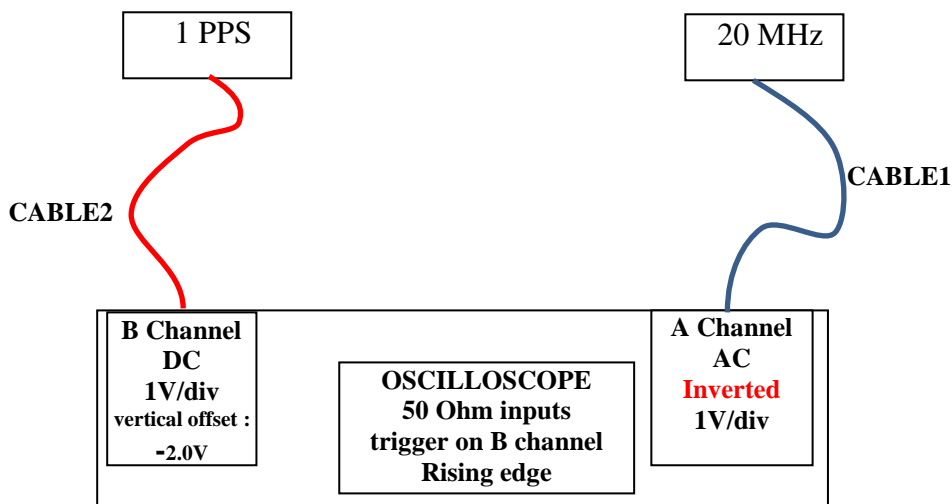

Figure 6: Measurement 1c: exchanged channel set-up
- c. There is still another way to validate the oscilloscope measurements. Interchange the channels and measure again using the setup shown in Figure 6.